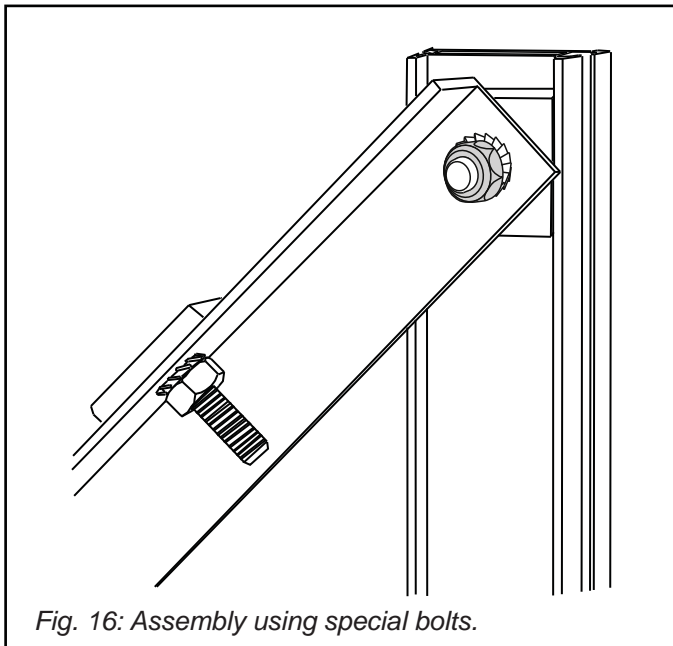

Fig. 16: Assembly using special bolts.
- Assemble the triangular supports that come partially screwed together (Fig. 16). Fix the loose support ends with a bolt (Fig. 16) and tighten all connections.